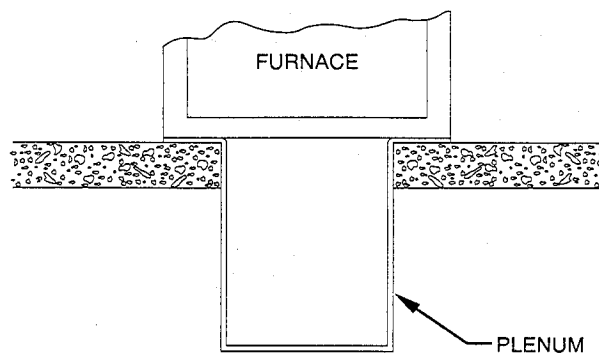

**Fig. 5—Furnace on a Concrete Slab (Non-Garage Installation)**
2. Place plenum and furnace as shown in Fig. 5.